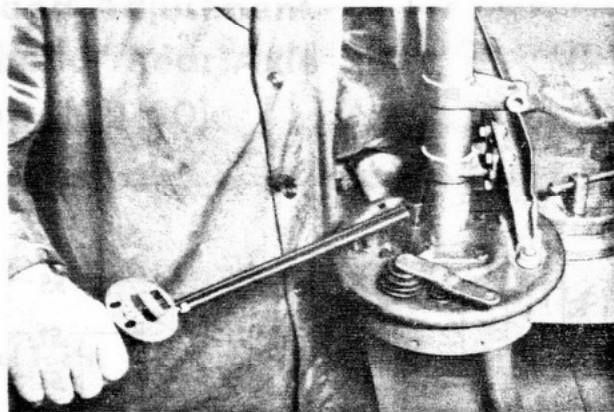

Fig. 41
5. Fit entire axle tube assembly over shaft (Fig. 41). Screw in securing screws and tighten (25 ft/lb or 3.5 m/kg).